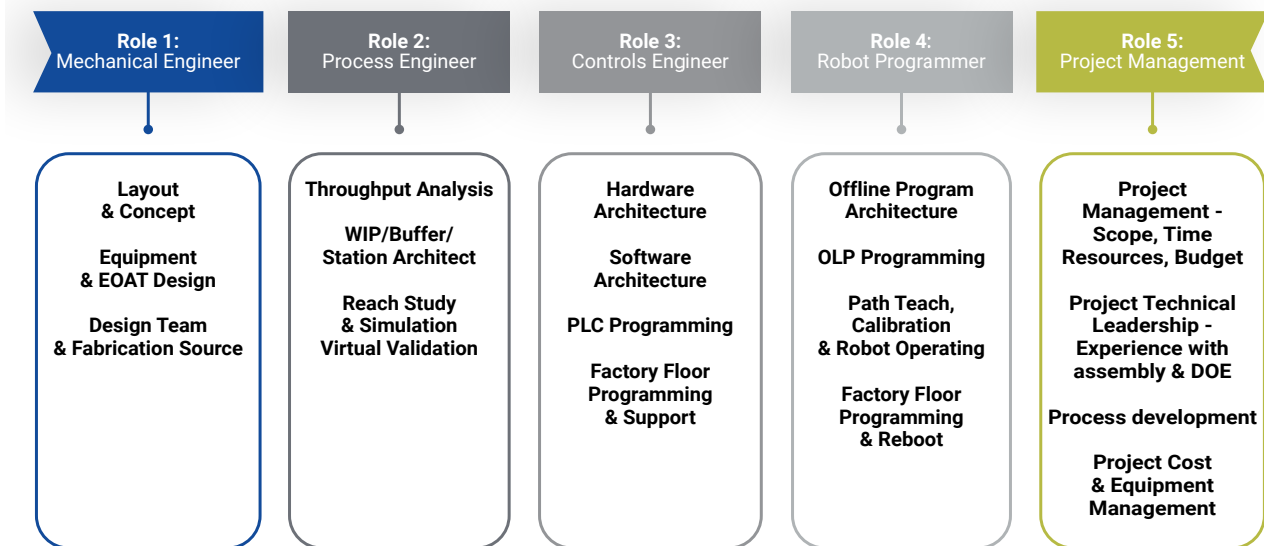

Figure 3
- Are the roles in Figure 3 adequately mapped out?